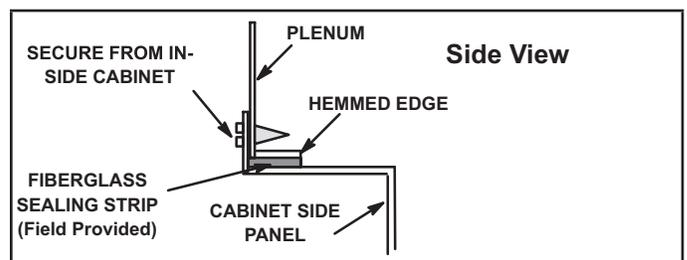

FIGURE 11
- 4 - In closet installations, it may be impossible to install sheet metal screws from the outside. In this case, make plenum with a removable front and install screws from the inside (See FIGURE 11).